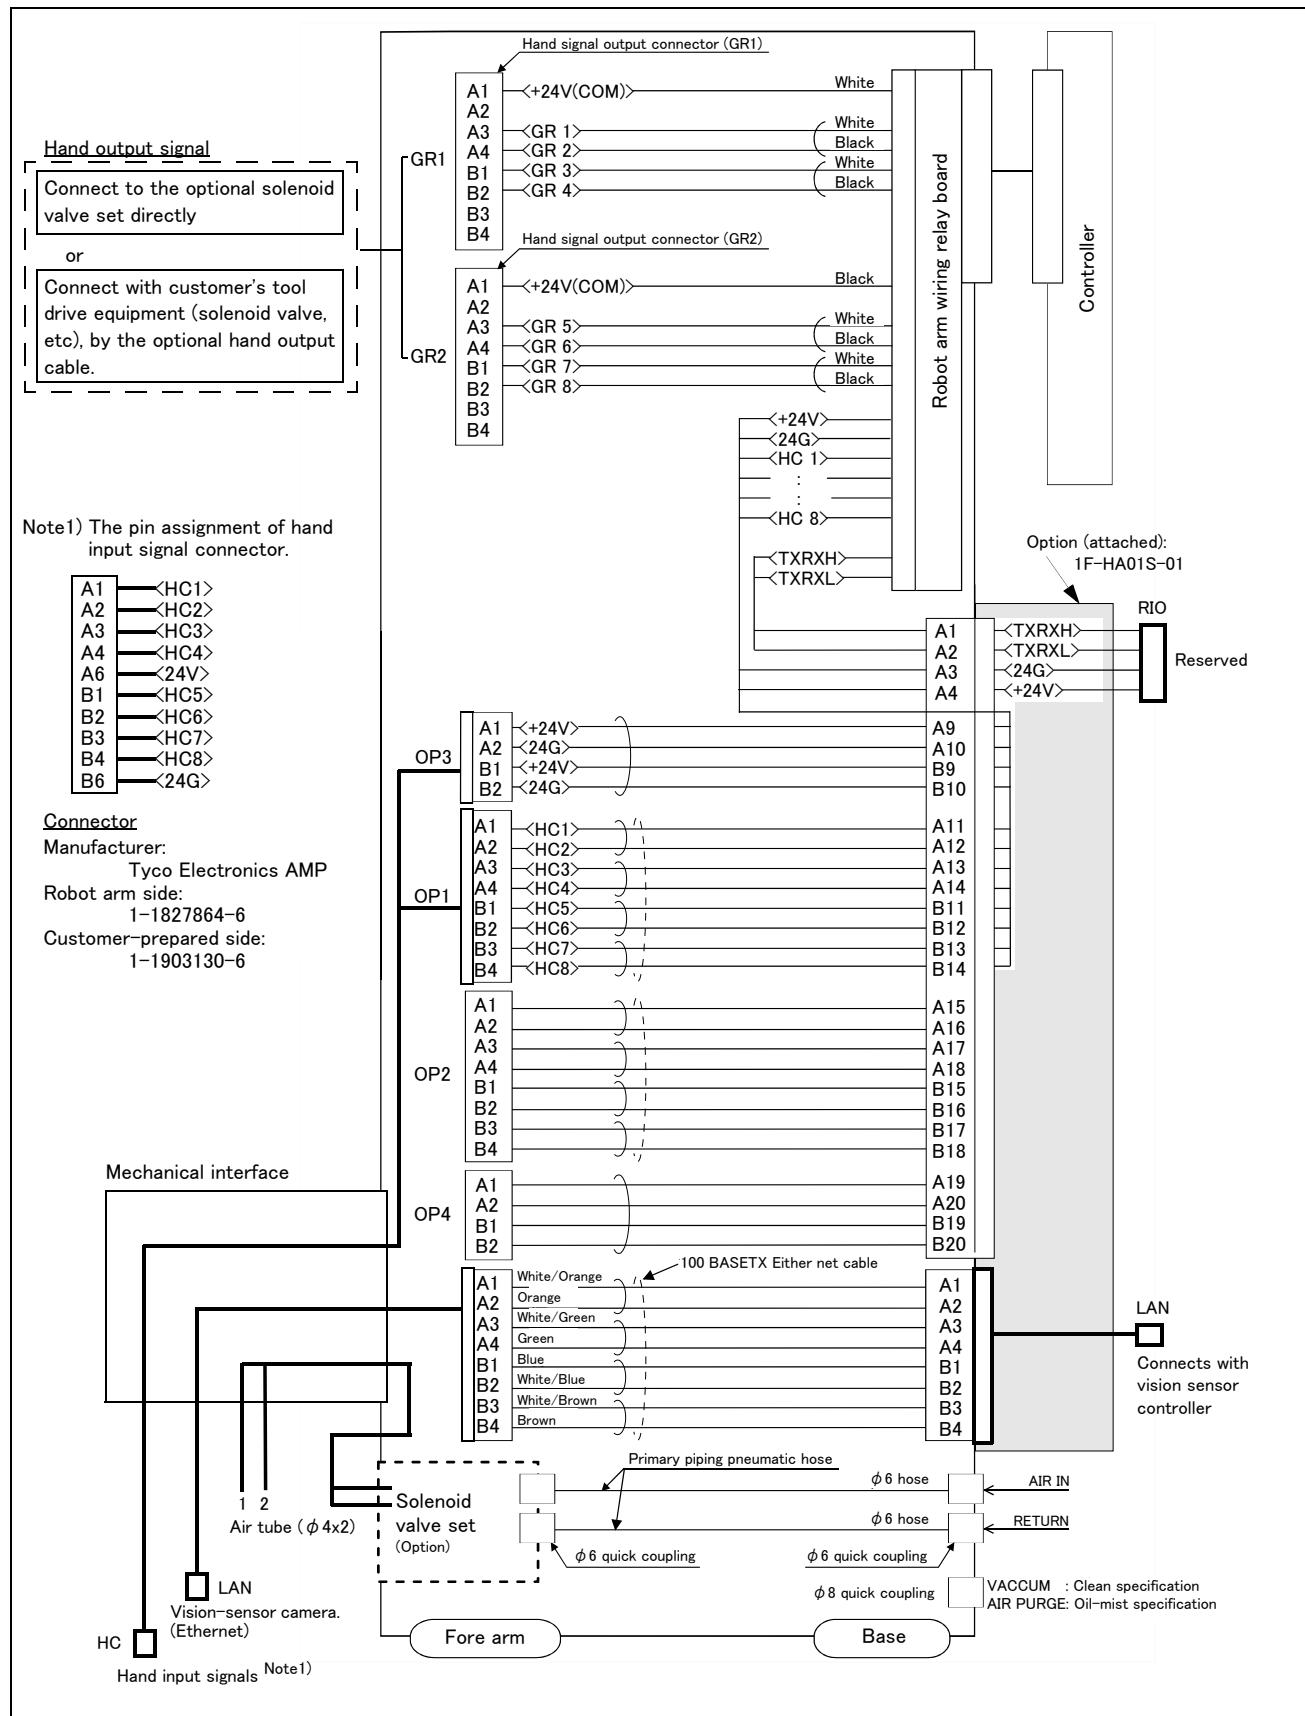

Fig.2-31 : Wiring and piping system diagram for hand and example the solenoid valve installation: SH05
\*3) Refer to Fig. 2-31 for pin assignment of the hand input cable (HC).